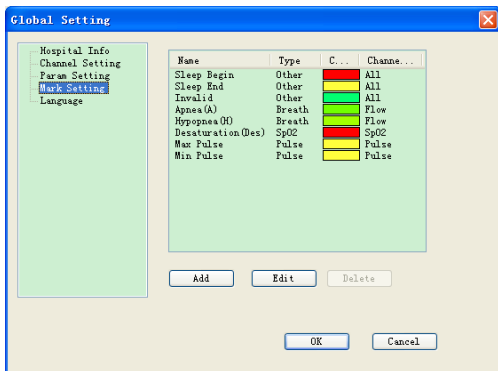

Figure 5-2-4
- 4) You can add, edit and delete marks in “Mark” interface, as shown in Figure 5-2-4: